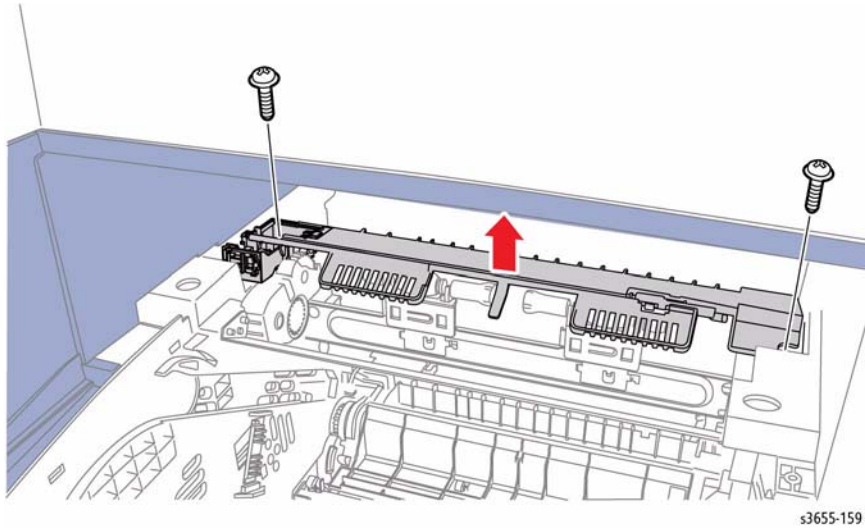

Figure 2 Remove the Exit Chute Assembly
15. Refer to Figure 2 to locate and remove 2 screws (silver, M3, 6mm) that secure the Exit Chute Assembly to the chassis.